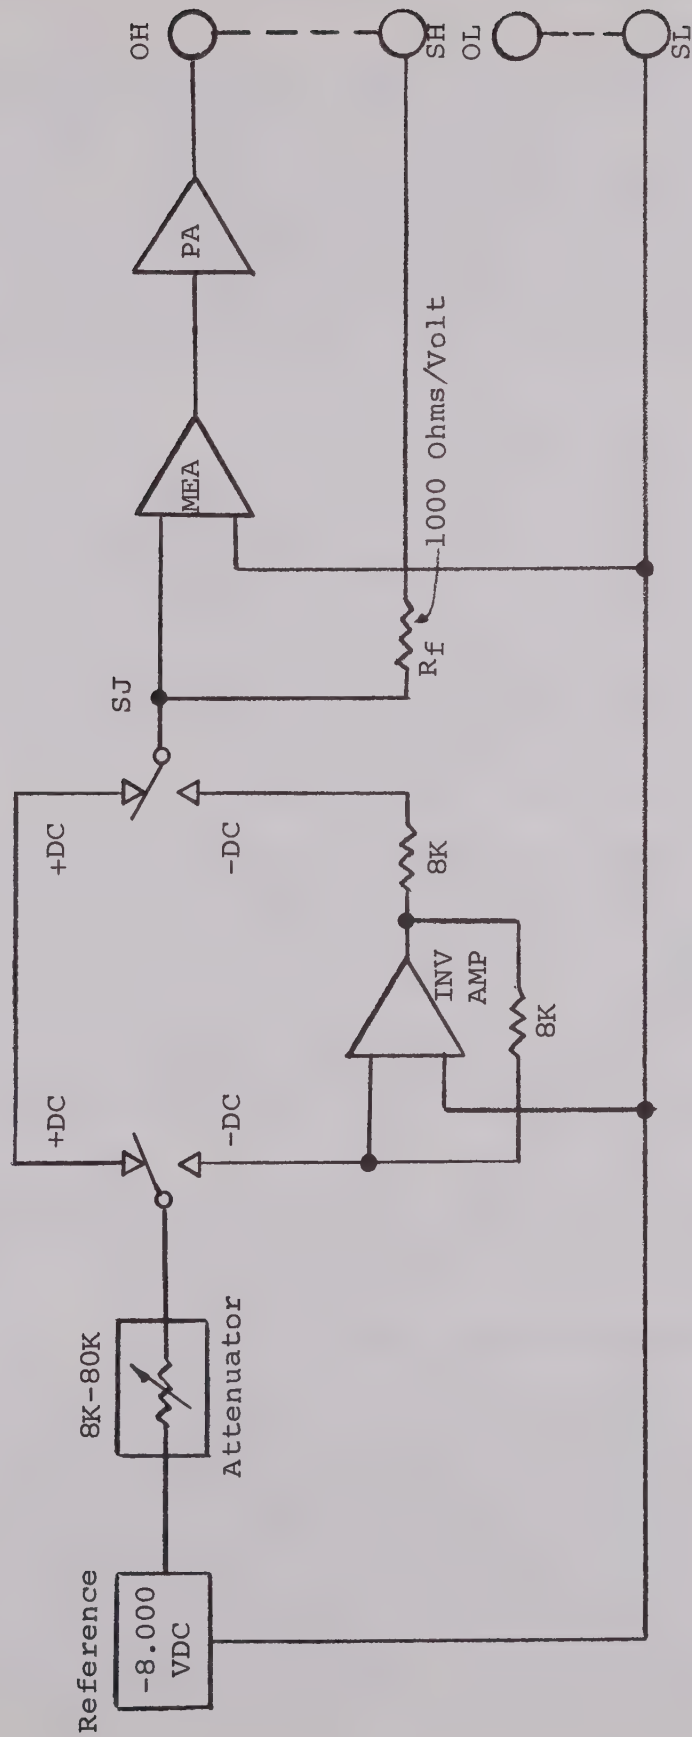

Figure 3-2
The simplified diagram of the configuration for dc voltage ≤ 10 volts is shown in Figure 3-2. As discussed above a precision current is injected to the summing junction (SJ) of an operational amplifier (MSA). The output voltage of the operational amplifier and the power amplifier assume values so as to cause an equal and opposite current to that injected above in the resistor R_f . The scale of currents, voltages and resistance is again such to make 1 milliamperes full scale on each range. The span of each range is again 1 to 10 so the value of R_f on the 1000 millivolt range is 1000 ohms and the 10 volt range 10000 ohms and so on.
The arrangement of components is shown in simplified form in Figure 3-2 for dc voltages greater than 10 volts. As described in the preceding paragraph a precise current is injected from the reference to the summing junction (SJ) of an accurate operational amplifier (MSA). The MSA output voltage activates a combination of an integrator, voltage controlled oscillator and rectifier so as to apply a 5000Hz sine wave voltage through a leveling circuit to the power amplifier. The power amplifier output is connected through transformers to rectifiers and filters, to reproduce a dc voltage, and then to the output high terminal. The output high terminal assumes that voltage which causes a current through resistor R_f which is equal